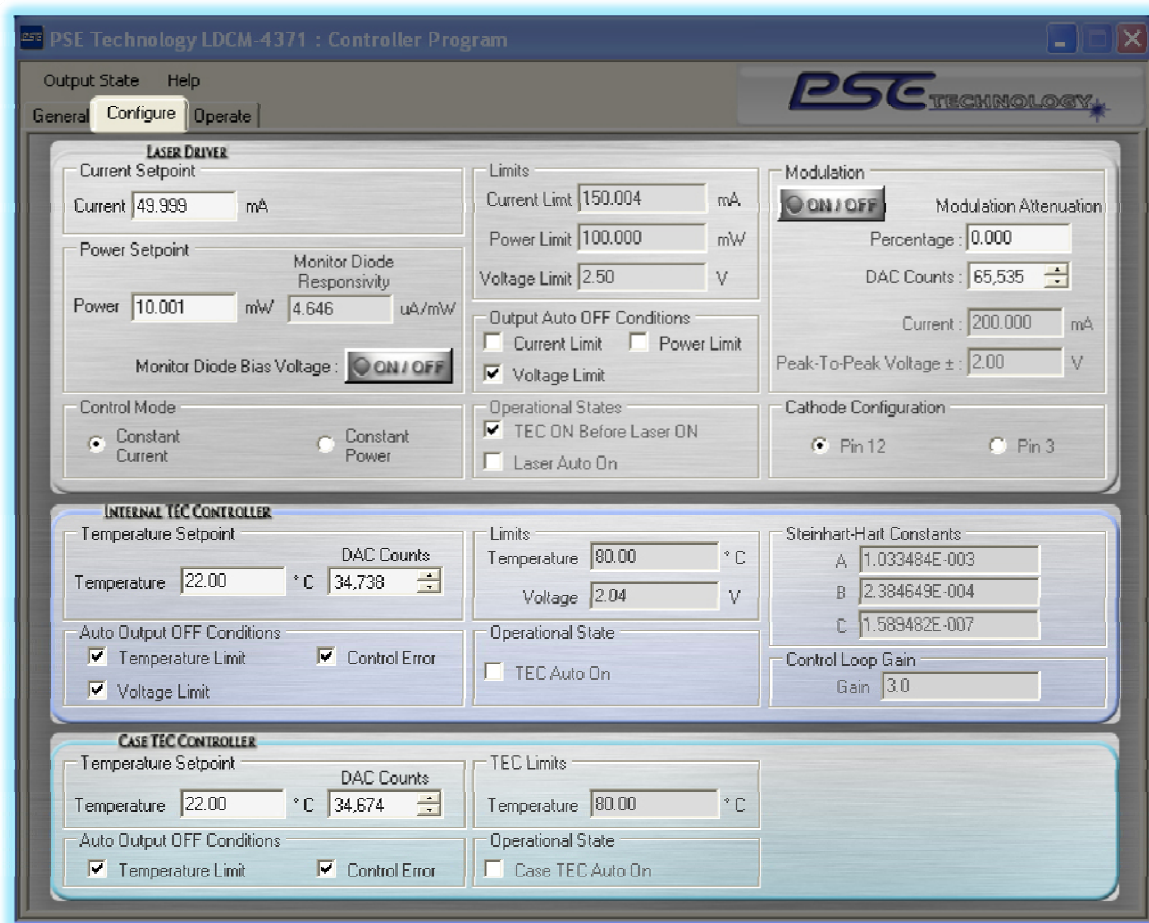

Figure 3.7: Operation Menu Screenshot
**Configure:** The second tab in the sequence is the Configure tab as shown in Figure 3.7 below. All the key laser driver and TEC Controller parameters for the instrument can be set, adjusted, and displayed through this menu in the Instrument Controller Program.